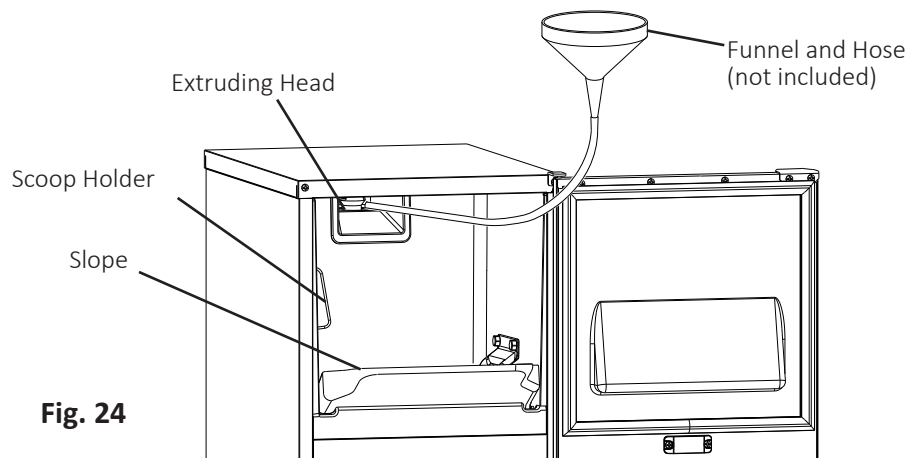

Fig. 24
- 6) Using a clean funnel and hose (not included), pour 1 qt (1 l) of cleaning solution over the extruding head (See Fig. 24.) Allow the appliance to sit for 10 minutes before operation.